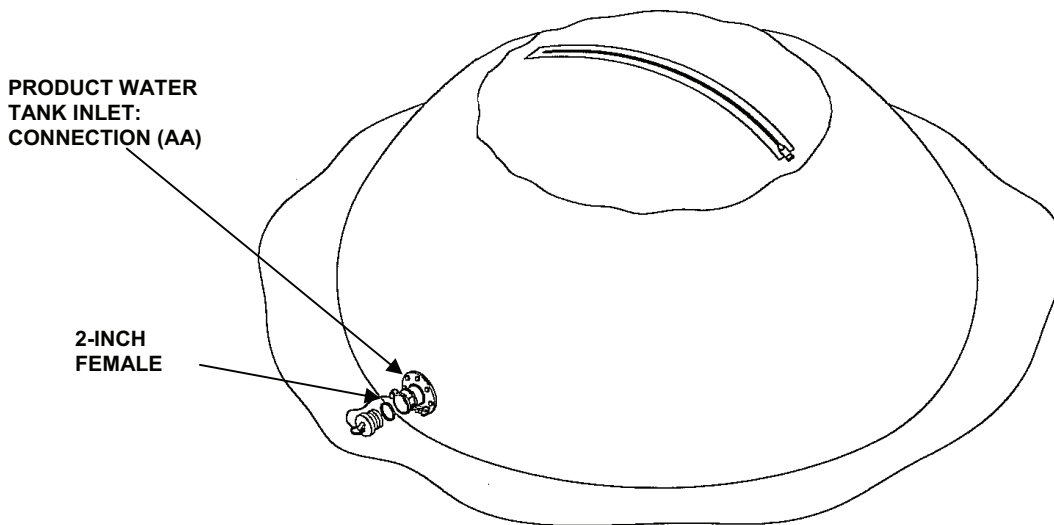

Figure 14. 1000-Gallon Collapsible Fabric Product Tank.
33. Make sure the product water tank inlet connection is set up within 20 feet (6.1 meters) from the chemical injection/cleaning module. See Figure 1, Figure 14.